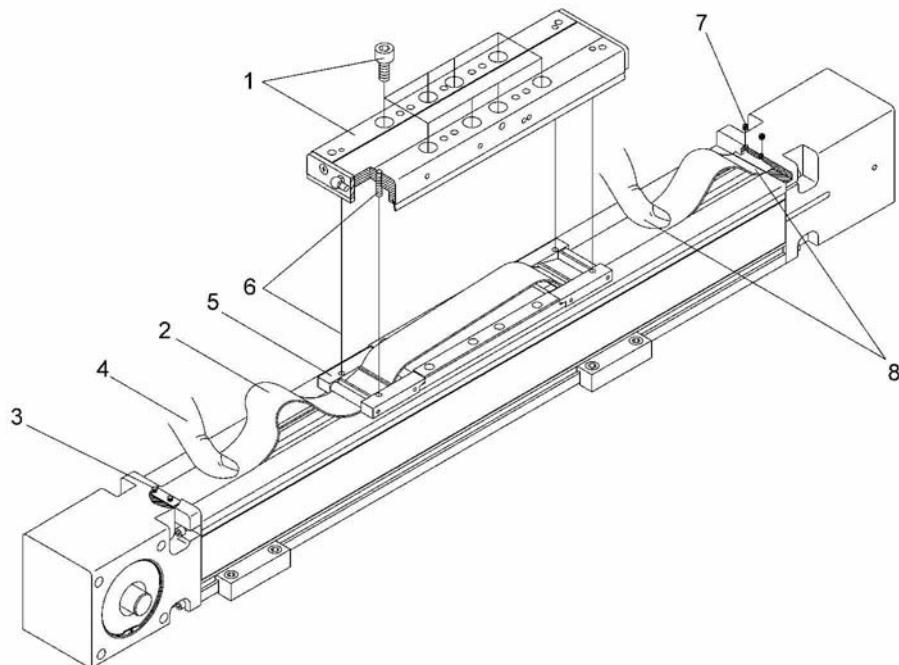

Fig. 9:
1. **Fig.9:** Remove the fastening screws from the sliding carriage and carefully lift the complete carriage off vertically. Attention: Ensure that the strip holders remain lying on the tubular profile!